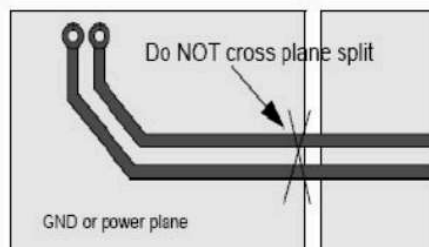

Figure 5. Signal Trace
- Signals crossing a plane split (see Figure 5) may cause unpredictable return path currents and would likely result in signal quality failure, as well as creating EMI problems.